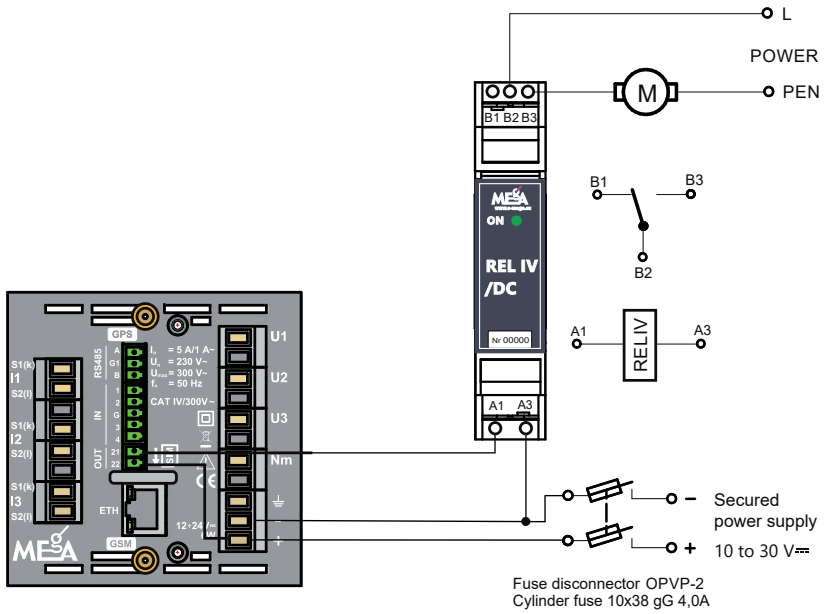
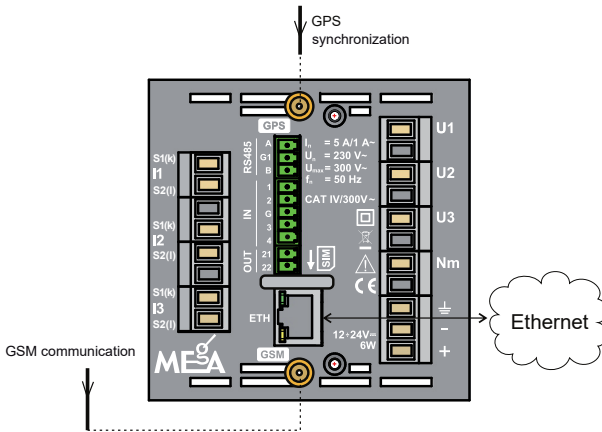

Fig. 28: Communication of MEg45PAN monitors via the RS485 interface
Fig. 31: Communication of MEG45PAN monitors via the ETH interface and Switch unit
The connection of local communication between the measuring and control system and a group of MEg45PAN monitors using the **RS485** interface is shown in Figure 28. One RS485 interface with the MODBUS RTU allows communication with up to 30 devices. The end of the communication link with the shielded twisted pair must be terminated with a 120Ω resistor.
Figure 31 shows an example of use of the ETH serial interface with the RJ45 connector for remote transmission of data of more than one MEg45PAN universal monitor with the use of a Switch unit. The monitor is fitted with a short RJ45 connector, enabling connecting to the Ethernet network even when the device is installed using the U-profile.
10. Figure 28 to Figure 31 show the basic connection of MEG45PAN with local and remote communication.
Figure 28 shows local communication of monitors via the RS485 interface with a local measuring and control system using a shielded twisted pair. For communication of multiple devices with the **RS485** interface, interconnect the **A** terminals of all devices and the **B** terminals of all devices and connect the **G1** terminals of all devices to the shielding of a twisted pair that should not be longer than 30 m in total in a CATIV300 V environment. Connect a terminating resistor of 120 Ω between the **A** and **B** terminals of the last communicating device. In MEG45PAN, they can also be connected via a SW command.
Figure 31 shows an example of MEg45PAN connection to an Ethernet network through a cable inserted in a RJ45 WS 8-8 connector labelled **ETH**.
Multiple MEg45PAN universal monitors can be connected to an Ethernet network through a Switch unit, see Figure 31. In a LV cabinet, use a safe ETH extension cable with a length of 2.5 m and additional LV insulation.